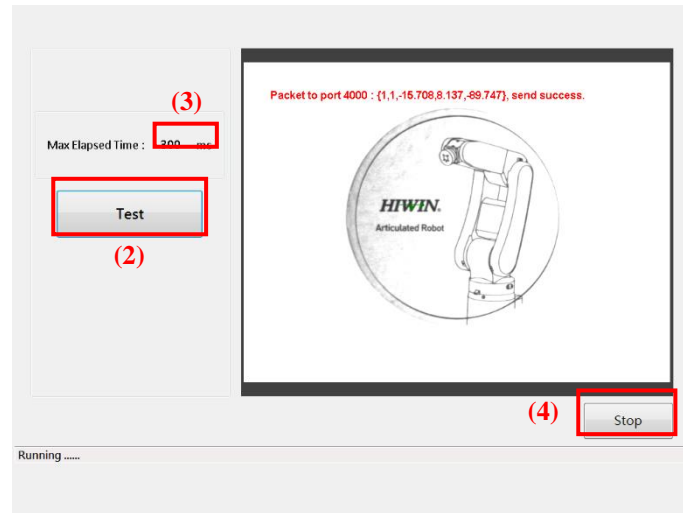

Figure 9-2 Static pick and place test run
(2). As shown in Figure 9-2, press the "Test" button to perform a single identification test.